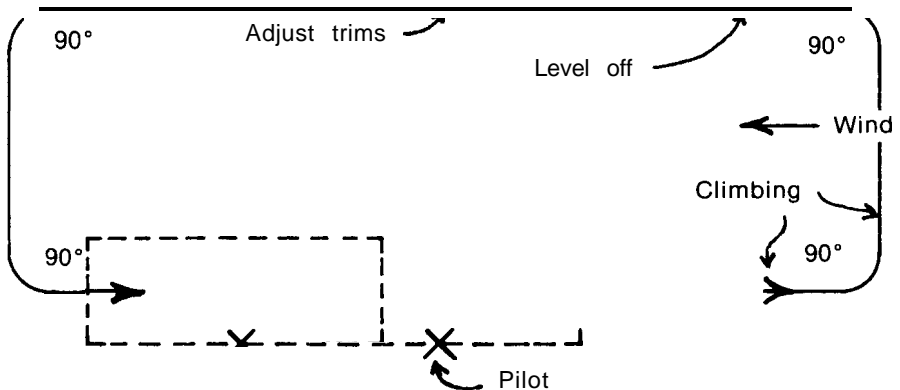

Fig. 2 – Climb Out and Check Circuit
2. Climb Out and Check Circuit (Fig. 2)